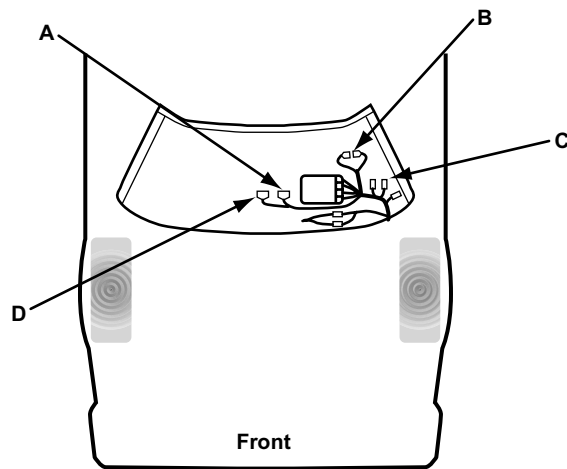

Figure 15-42 1988–94 Justy Carbureted, 1990-94 Justy MFI, 1990-94 Legacy, and 1987–94 L-Series
- “1988–94 Justy Carbureted, 1990-94 Justy MFI, 1990-94 Legacy, and 1987–94 L-Series” on page 197 (Figure 15-42)